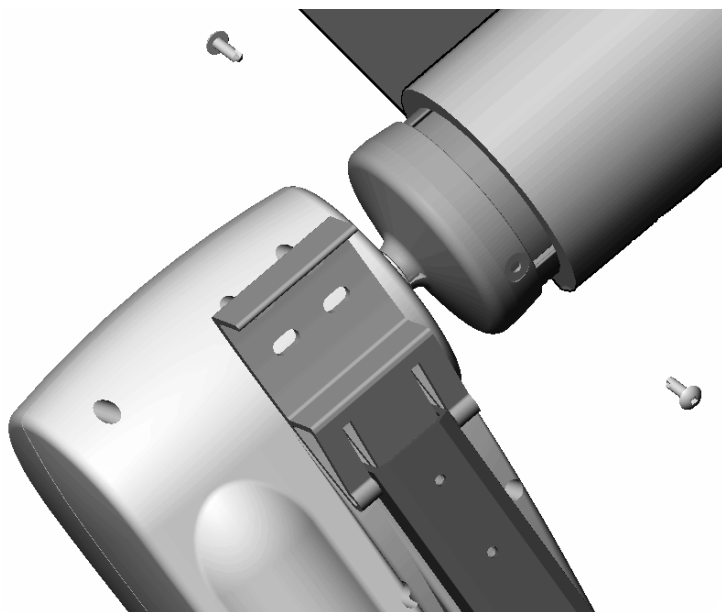

figure 3
D. Secure the end cap to the roller assembly using two, #10 square-drive screws (**figure 3**).